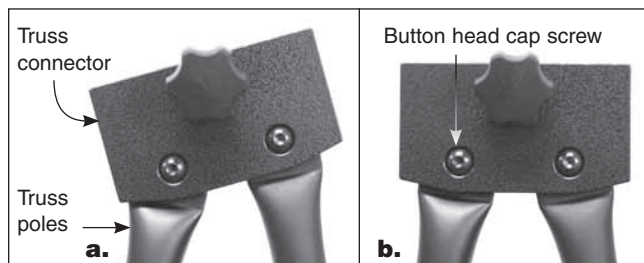
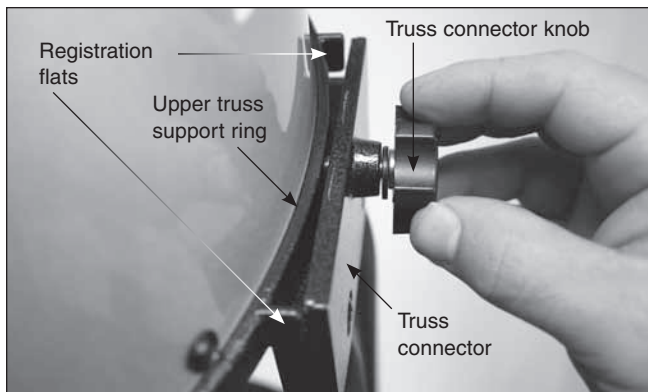

Figure 26. The position of the truss connectors relative to the pole ends can be adjusted to register the truss connectors with the upper truss support ring.
Figure 27. When the knob in the truss connector is tightened, it will clamp the truss connector against the registration flats on the upper truss support ring.
7. Connect the upper tube section to the four truss connectors at the top of the poles. Orient the upper tube section as shown in **Figure 25**. Hold the upper tube section with one hand while threading the knobs in the truss connectors into the holes in the upper truss support ring. If necessary, you can slightly adjust the position of the truss connector with respect to the pole ends in order to have the knobs and holes line up (**Figure 26**). When tightened, the knob will clamp the truss connector against the registration flats on the upper truss support ring (**Figure 27**). Repeat this for the other three truss connectors. Firmly tighten the knobs.
to the truss connectors (see **Figure 26**). This should rarely need to be done.